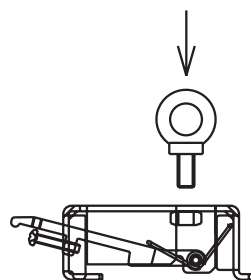

Figure 10
1. Connect the eyelet (d) to the mounting bracket (b). (see Fig. 10)